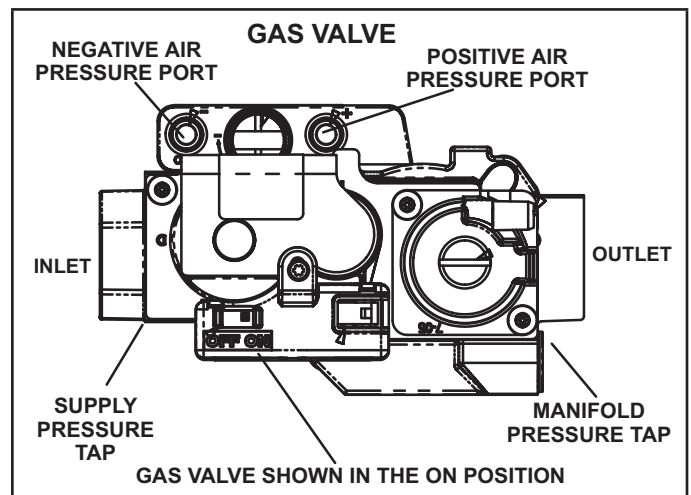

FIGURE 48
Gas Valve Operation (FIGURE 48)
- 6 - Move the gas valve switch to the OFF position. See FIGURE 48.
- 8 - Move gas valve switch to the ON position. See FIGURE 48. Do not force.
When testing supply gas pressure, connect test gauge to supply pressure tap on the gas valve. See FIGURE 48. Check gas line pressure with unit firing at maximum rate. Low pressure may result in erratic operation or underfire. High pressure can result in permanent damage to gas valve or overfire. See TABLE 27 for operating pressure at unit gas connection (line).